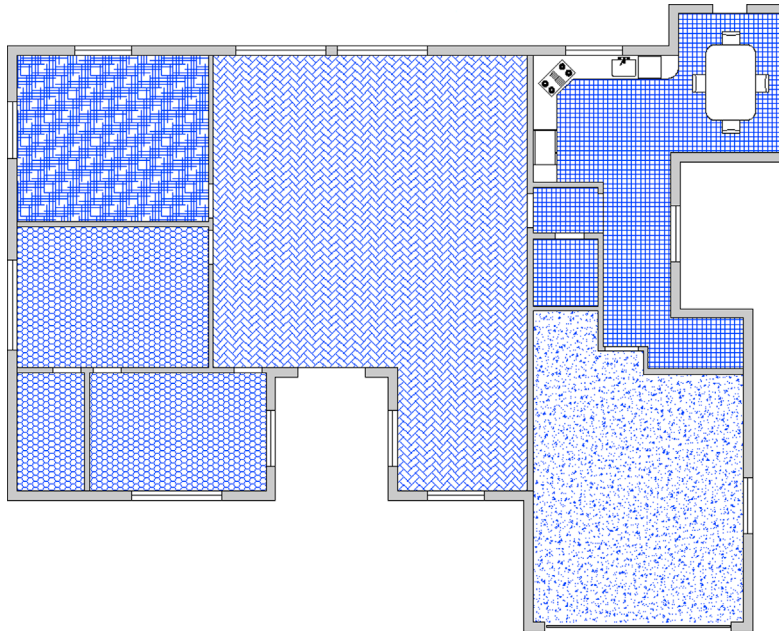

FIGURE 15.76 Carpeting and flooring layout.
Step 2. Freeze all layers that are not relevant to the carpeting, leaving only walls, wall hatch, appliances, and windows. Draw a set of temporary lines to block off doorways so the hatch does not bleed from one room into another. Finally, create the carpeting/flooring plan shown in Fig. 15.76.